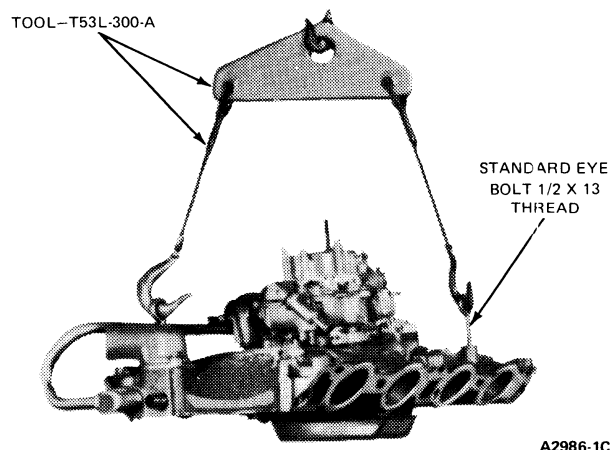

FIG. 13 Removing or Installing Intake Manifold
11. Remove attaching bolts and nuts and remove intake manifold and carburetor as an assembly (Fig. 13). **If necessary to pry manifold away from cylinder heads, do not damage gasket sealing surfaces.**